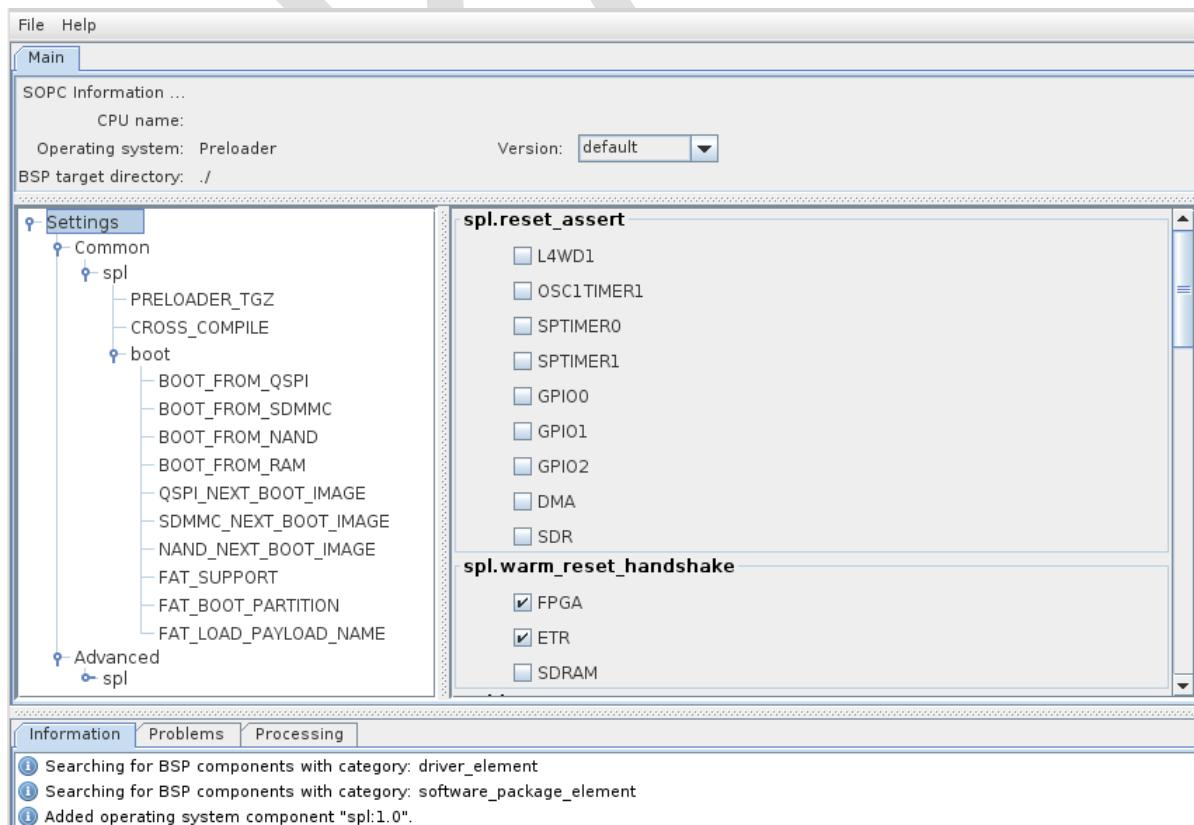

Figure 8-24. Preloader Settings Dialog
- Press the “OK” button. You should then arrive on a page with many settings, as shown on Figure 8-24. Take some time to read through them to see what the preloader has the ability to do.
12. On the main settings page of Figure 8-24, we will only need to modify 3 parameters for our design.